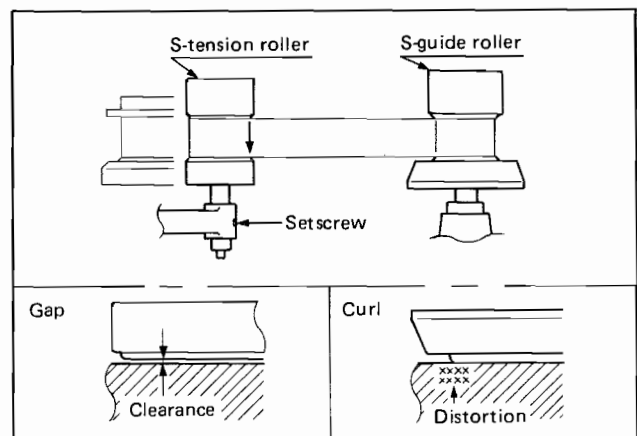

Fig. 5-14
1. Adjusting the S-guide roller height, set the S-guide roller so that there are no clearance and curl at the entrance (indicated by arrow) on the lower flange of the S-tension roller. (Fig. 5-14)